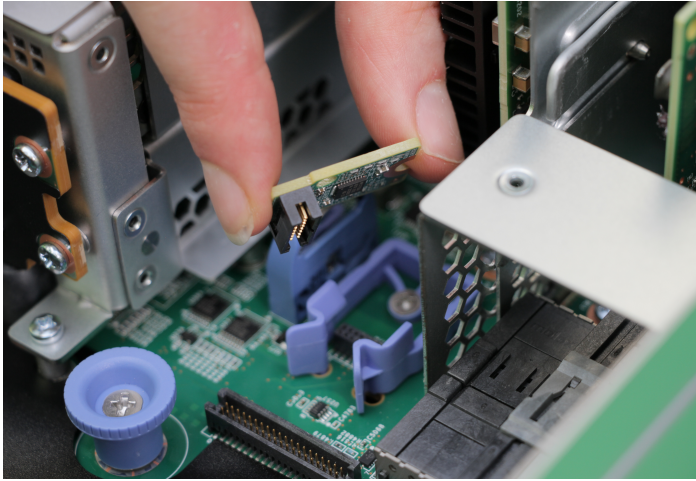

Figure 100. Removing the TPM
10. Insert your finger tip between the latches and hold the TPM between your thumb and finger, as shown in Figure 100 on page 161.